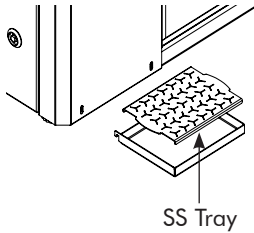

Fig 21.1
1. Attach the SS Tray in front of the control panel (*fig. 21.1*).